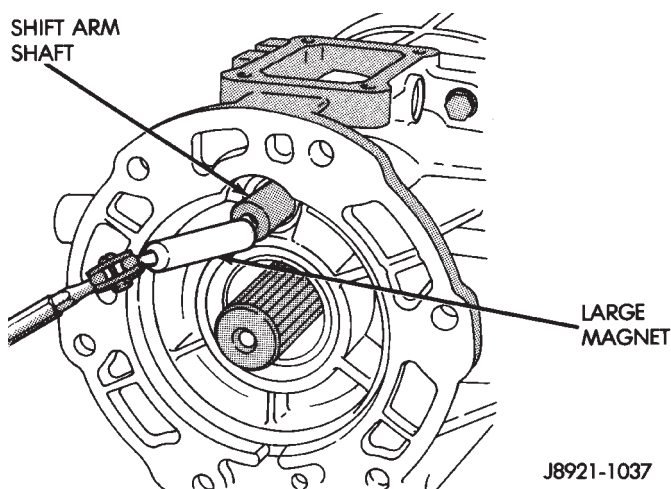

Fig. 7 Removing/Installing Shift Lever Shaft
- (8) Remove shift arm shaft with large magnet (Fig. 7).